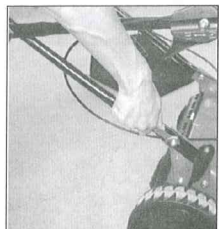

Fig.2E
1. Fix the lower handlebars into the unit body with a suitable spanner. (Fig.2E)